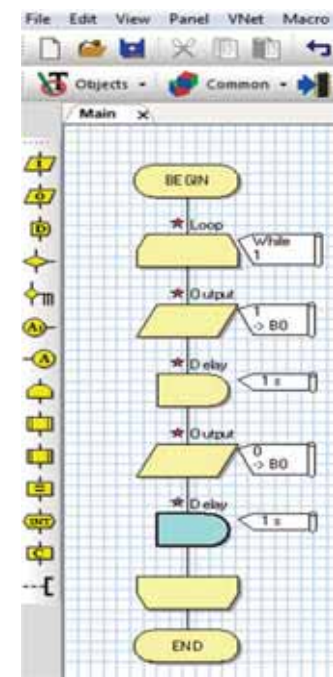

Figure 6: Insert one-second delay block after turning OFF the port pin
5. Insert another one-second Delay block after turning the port pin OFF, as shown in Figure 6.